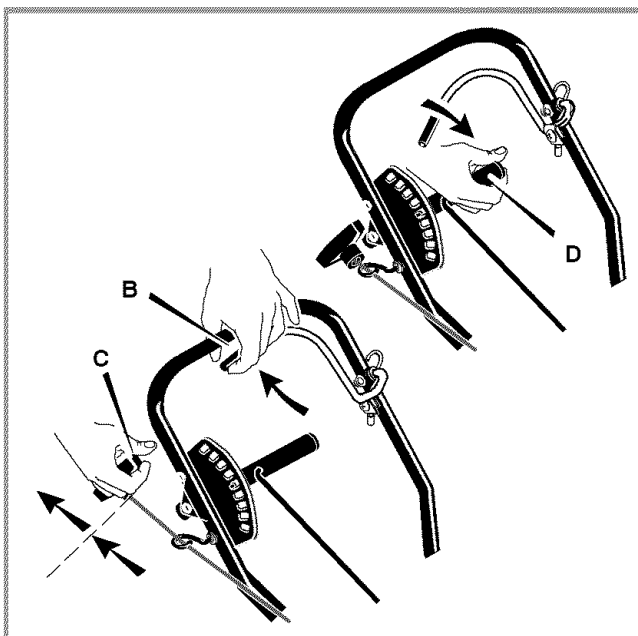

Figure 8: Operating Controls
- 1 Before starting the engine, make sure to raise the blade. To raise the blade, move the depth control lever (D) forward until the blade will not contact the ground. See Figure 8.
- 3 With your left hand, pull back and hold the engine stop lever (B) in the operating position. See Figure 8.
- 4 To start the engine, hold the starter rope handle (C) firmly with your right hand.